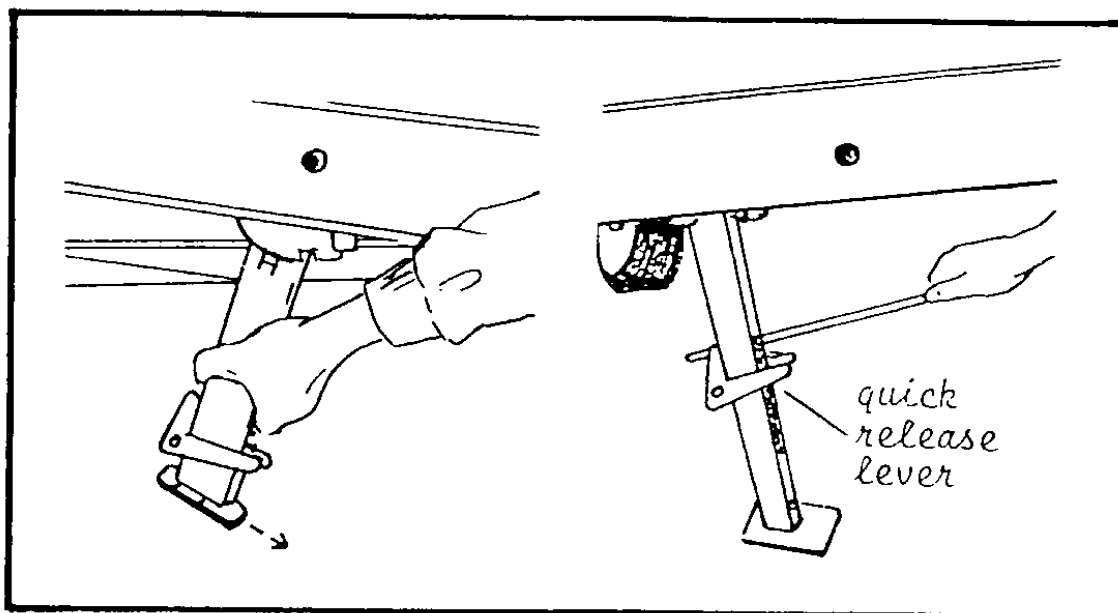

Figure 1
- a. Reach under and firmly grasp the stabilizer, push it away from you approximately 1/2" and then pull downward toward yourself until it locks in position. (See Figure 1.) Should the stabilizer become stuck, gentle tapping should free it.